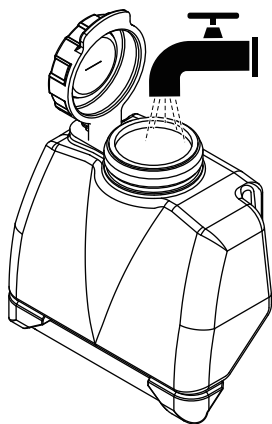

Fig.7
1. Check the water tank for leaks after filling the water. (Fig.7)